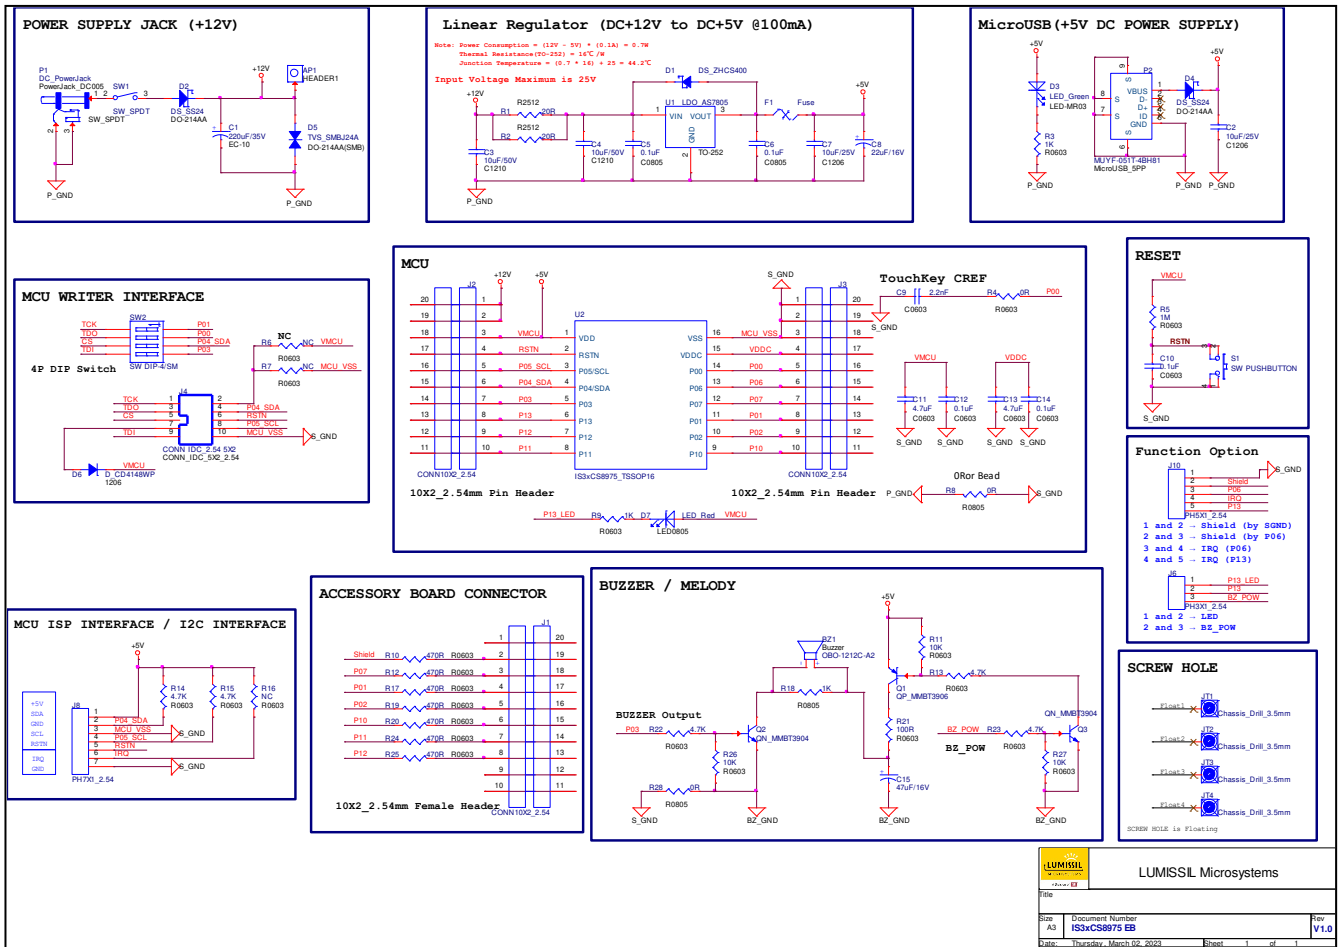

Figure 11: IS31CS8975 Evaluation Board Application Schematic
Please refer to the Bill of Materials for a description of components, *Figure 4 & 5* for components placement, and *Figure 11* for the EB Schematic.
*Bill of Materials, refer to Figure 11*